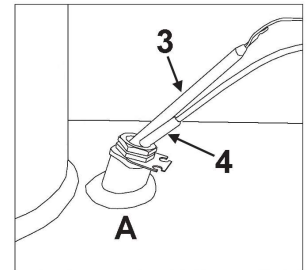

Fig. 19 - Well A
**IT IS MANDATORY** to insert in the well "A" (Fig. 19) the temperature probe "4" and the safety thermostat bulb "3".